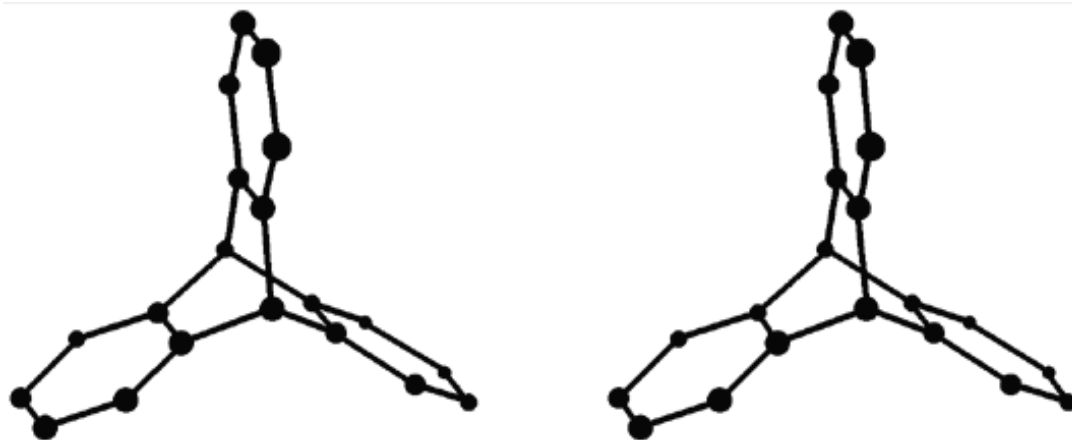

Figure 2. Stereoview of the triptycene molecular structure
8. There is still one better method for displaying 3-D structures - the use of stereoviews. However, the main drawback with these images is that they consume more space than normal figures and editors will only accept them if their use is justified. To obtain a stereoview, follow steps 1, 2 and 3 to form the structure shown in Figure 1c). Then select Display Stereo Views in the Stereoviews control panel of the preference menu to produce a "left-eye" and a "right-eye" image on the screen. By exporting this figure and pasting it into either a wordprocessor file or ChemDraw itself, one can obtain a print-out of the structure (Figure 2) and view it using a